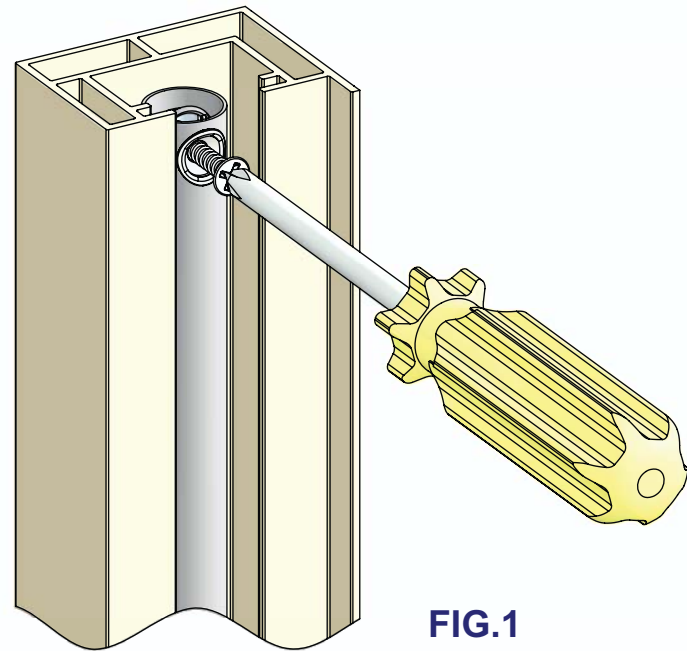

FIG.1
1. ATTACH THE BALANCE TO THE WINDOW FRAME USING A #8 SCREW (SEE FIG. 1).